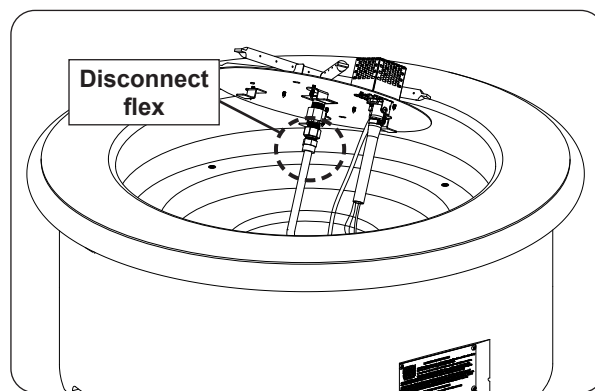

Fig. 28-1 Disconnect flex connector
1. Disconnect flex connector attached to the burner assembly (see Fig. 28-1).